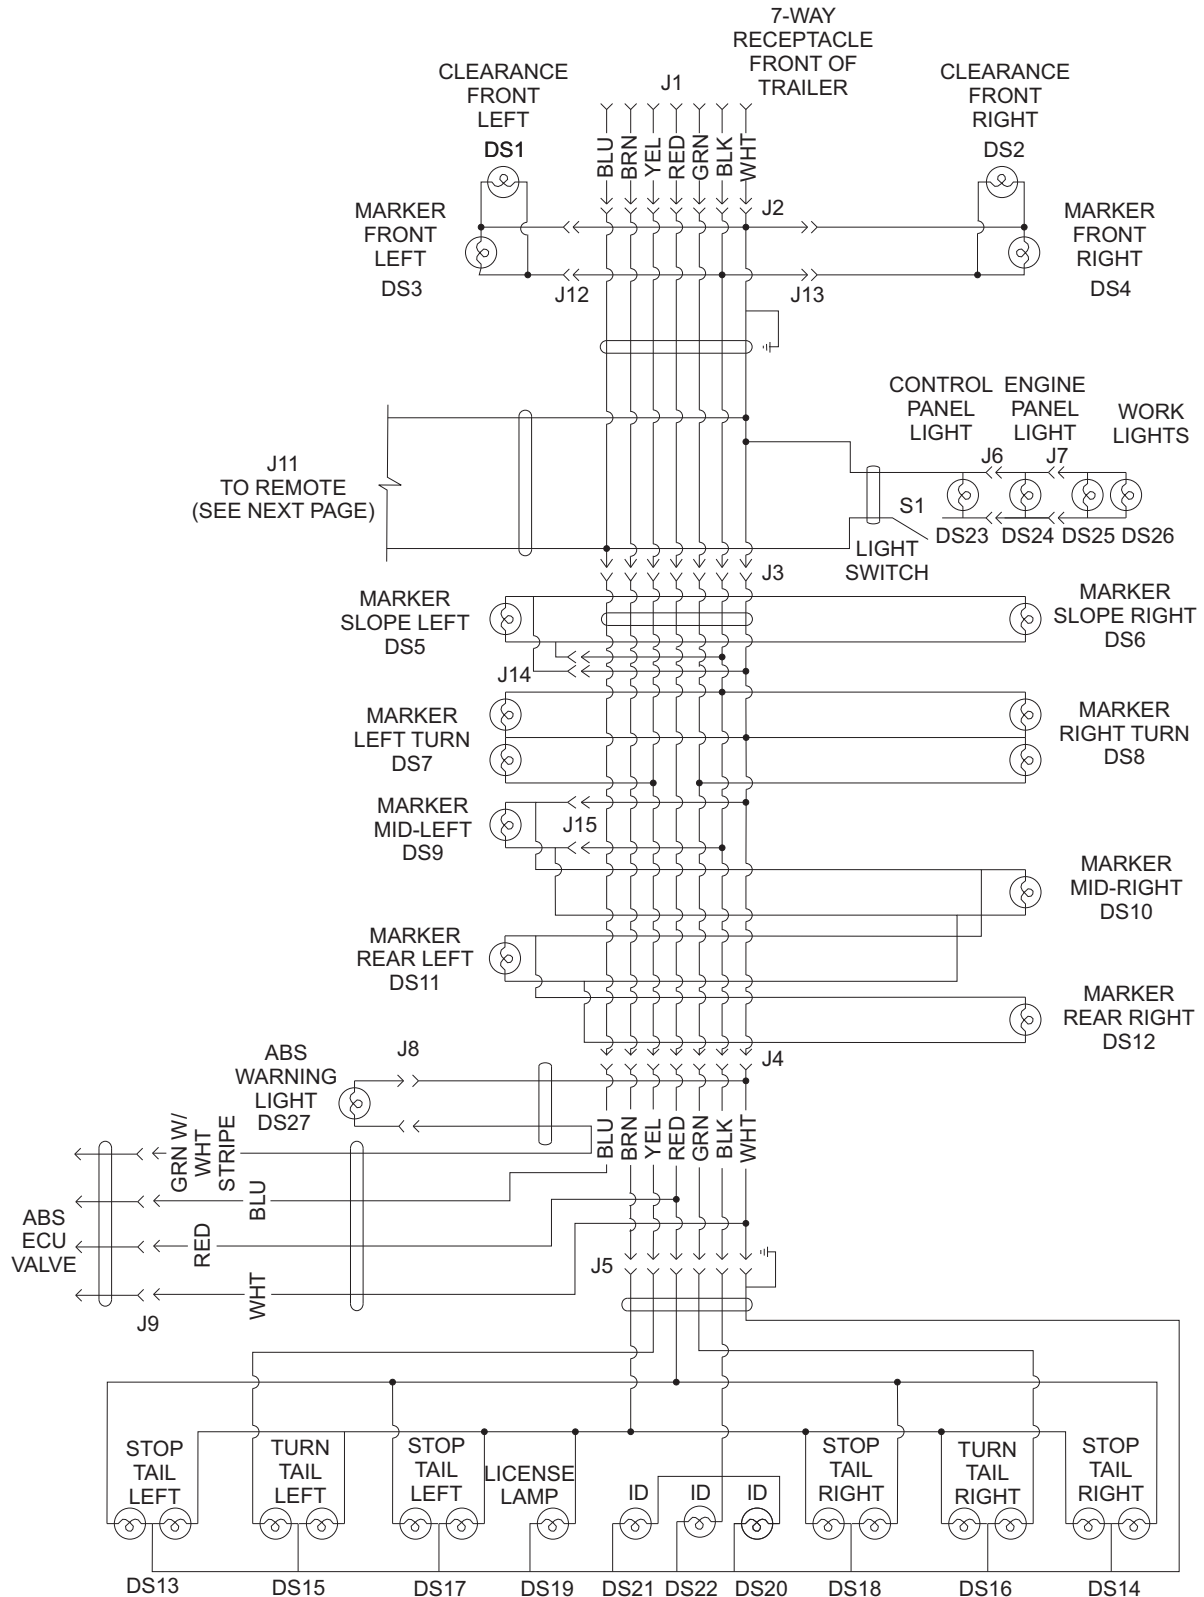

Figure 4-3: 900D Series Wiring Diagram
1. Maintenance of the electrical system consists of inspection and minor servicing. Any wire, connection or electrical component showing signs of corrosion, wear, breakage or unraveling must be repaired or replaced. (**See Figures 4-3 and 4-4** for electrical wiring diagrams and **Table 4-4** for wiring parts list.)